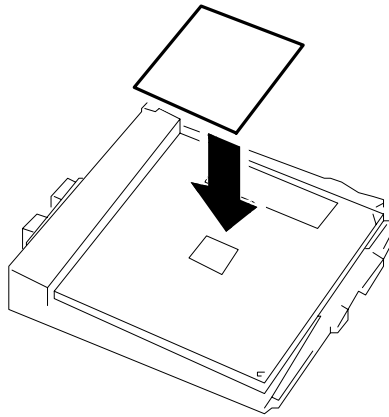

Figure 7. Installing Thermal Pad
7. Position the thermal pad on top of the processor with the shiny side facing down and the yellow sticky side of the pad facing up. Ensure the pad is positioned over the center of the processor as shown in Figure 7.